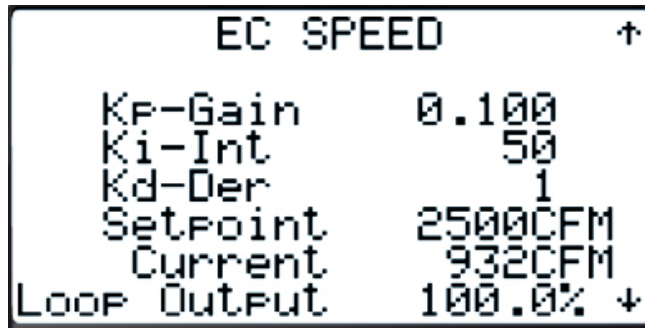

Figure 47
2.3.3.5.4 Tuning – EC Blower (Figure 47)
2.3.3.6 I/O Status (Figure 47)